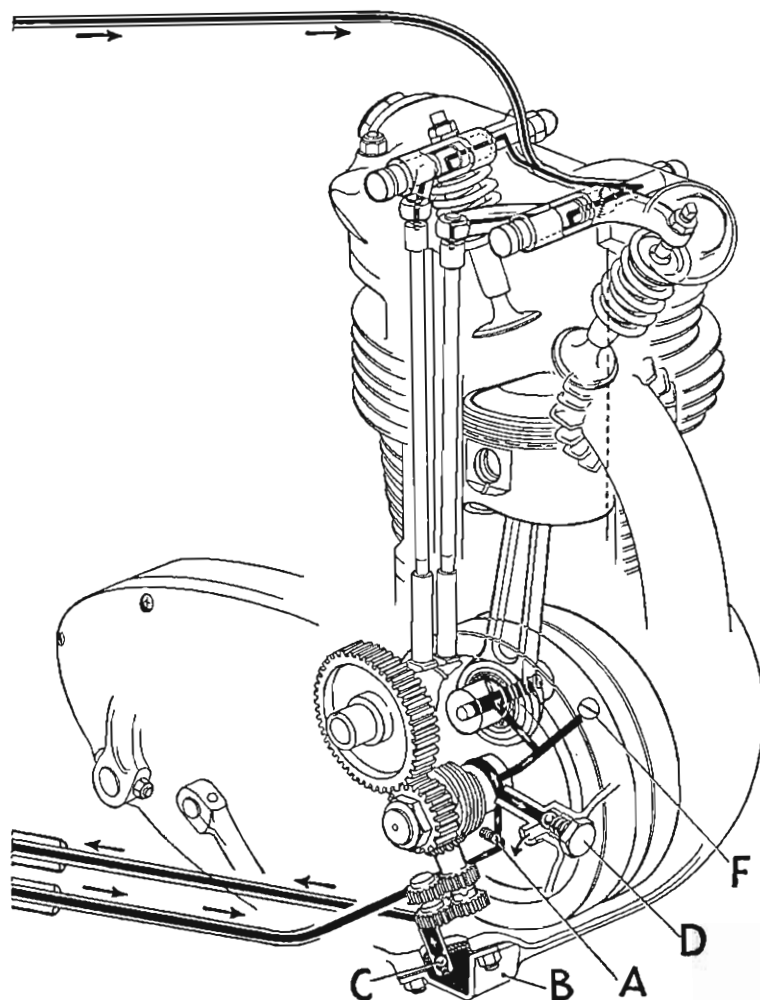

FIG. C28A. *Lubrication system.*
The pressure release valve is situated at the front of the timing case on the right-hand side and is accessible when the plug (D) Fig. C28A is removed.
If the ball valve (C) Fig. C28A should be stuck on its seating it will prevent the return of oil to the tank. In this event, remove the cover plate (B) below the pump, insert a suitable piece of wire and lift the ball off its seating to free it.